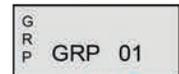

Figure 5
- Press the "#" key followed with the 2-digit number of the desired group and press " ENT" or wait 3 seconds. (See Figure 5)